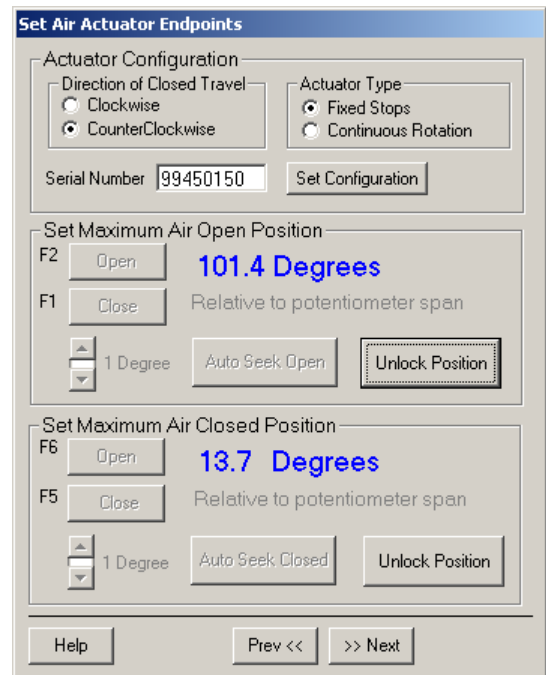

Fig. 13. Lock actuator open position.
- Lock actuator open position. See Fig. 13.